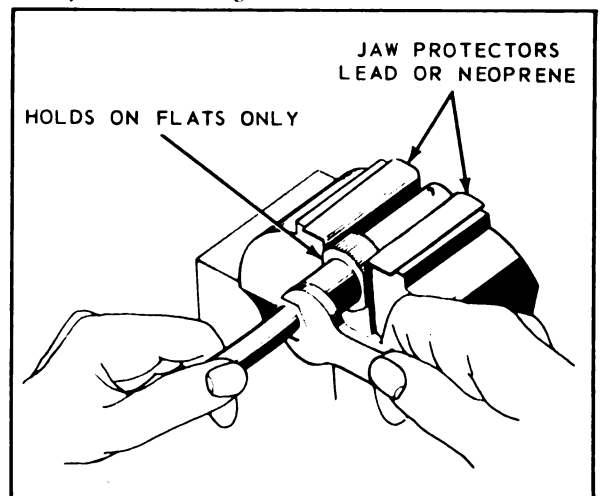

Figure 4-13. Tightening Nut into Plug or Jack Body
4-25. When assembling the connector always start the clamping nut into the body by hand, then hold the body assembly in a vise using lead or neoprene jaw protectors. See figure 4-13. Hold body only on the flats. Do not use excessive pressure, since the body can be easily distorted. Tighten nut with end wrench.
k. Push cable assembly into connector body as far as it will go. Make sure gasket is properly seated, with sharp edge of sleeve clamp entering gasket groove. Slide nut into connector body and fasten in vise. Start nut by hand and tighten with end wrench until enough pressure is applied to make a good seal by splitting the gasket. See figure 4-13.
k. Insert cable assembly into connector body. Make sure that the sharp edge of the clamp seats properly in the gasket. Tighten the nut, holding the body stationary. See figure 4-13.